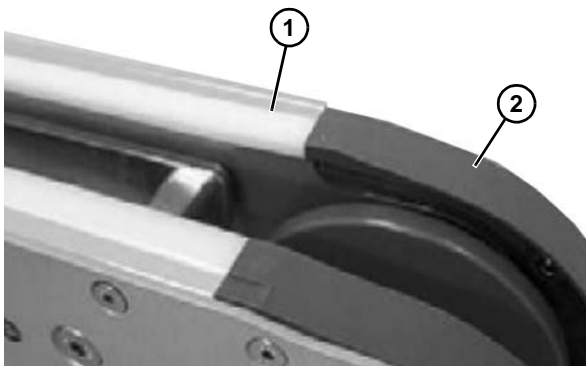

Figure 36
1. Start the wear strips (**Figure 36, item 1**) at an idler end (**Figure 36, item 2**) of conveyor. Separate the top and bottom flange of the wear strip at the end of rail and press into place.